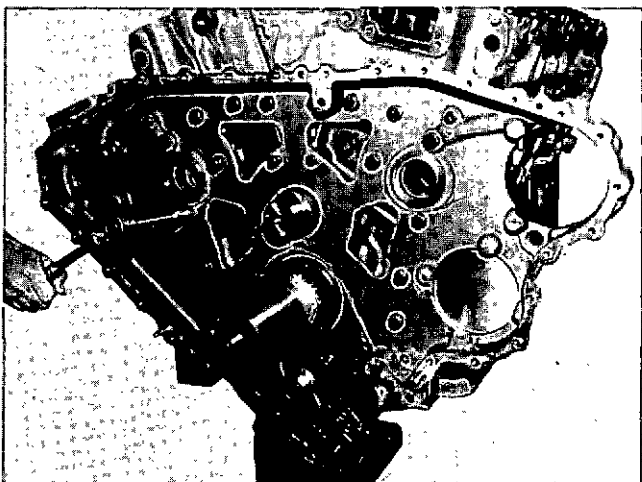

Fig. 14-1-30, V414132. Tighten mounting capscrews temporarily
3. Temporarily install and tighten capscrews. Fig. 14-1-30.